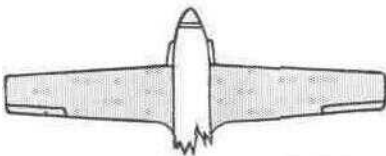

Fig. 16. Moderate taper to both edges
- (b) Moderate taper (Fig. 16) Avro "Anson."